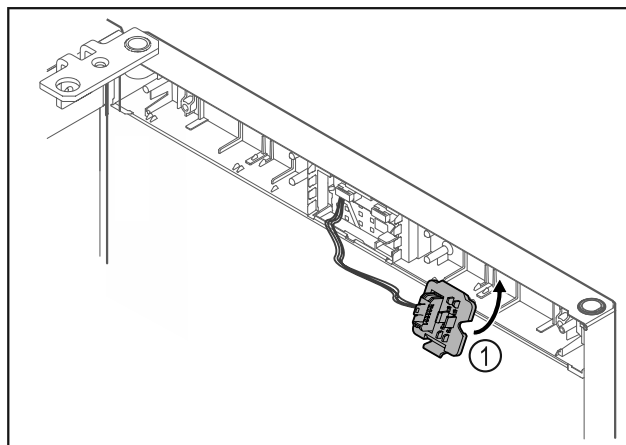

Fig. 20
- Engage the plug holder Fig. 20 (1) on the opposite side.*